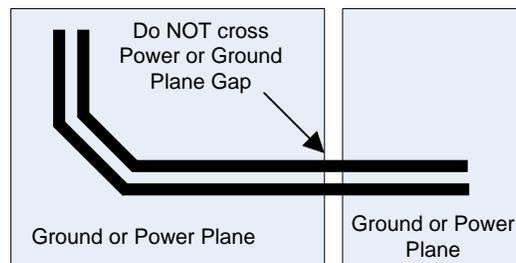

Figure 17. Differential Signal Pair-Plane Crossing
- Differential signal traces should not be run such that they cross a plane split, as shown in Figure 17. A signal crossing a plane split may cause unpredictable return current paths, resulting in an impedance mismatch, which can impact signal quality and potentially create EMI problems.